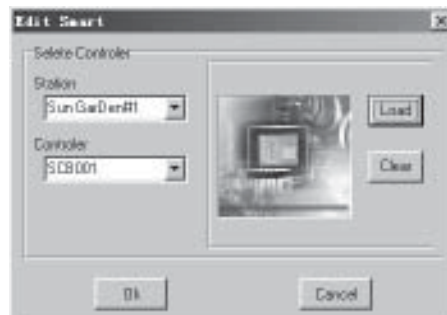

Fig. 4-32 Interface of Inserting Controllers
2. Write down the picture of the corresponding FAB controller as in Fig. 4-32 and the click the *Confirm* button. Thus the inserting FAB controller is completed.